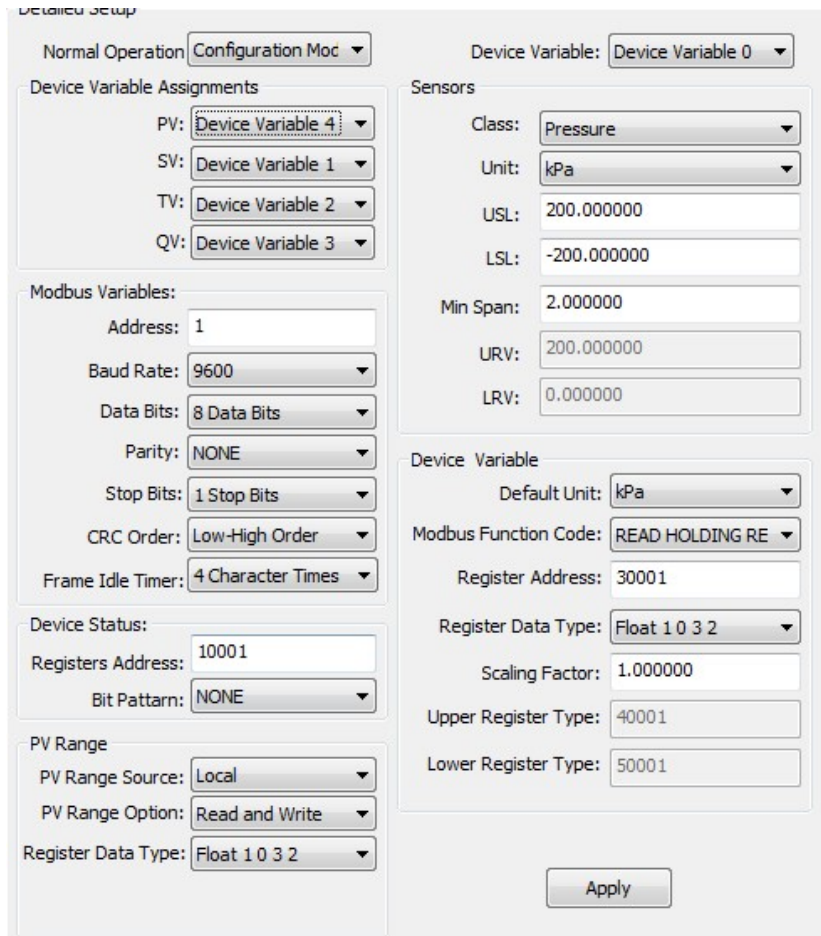

Figure 5.42 Save the device variable value
3. Click the "apply" to save the settings. As shown in Figure 5.42